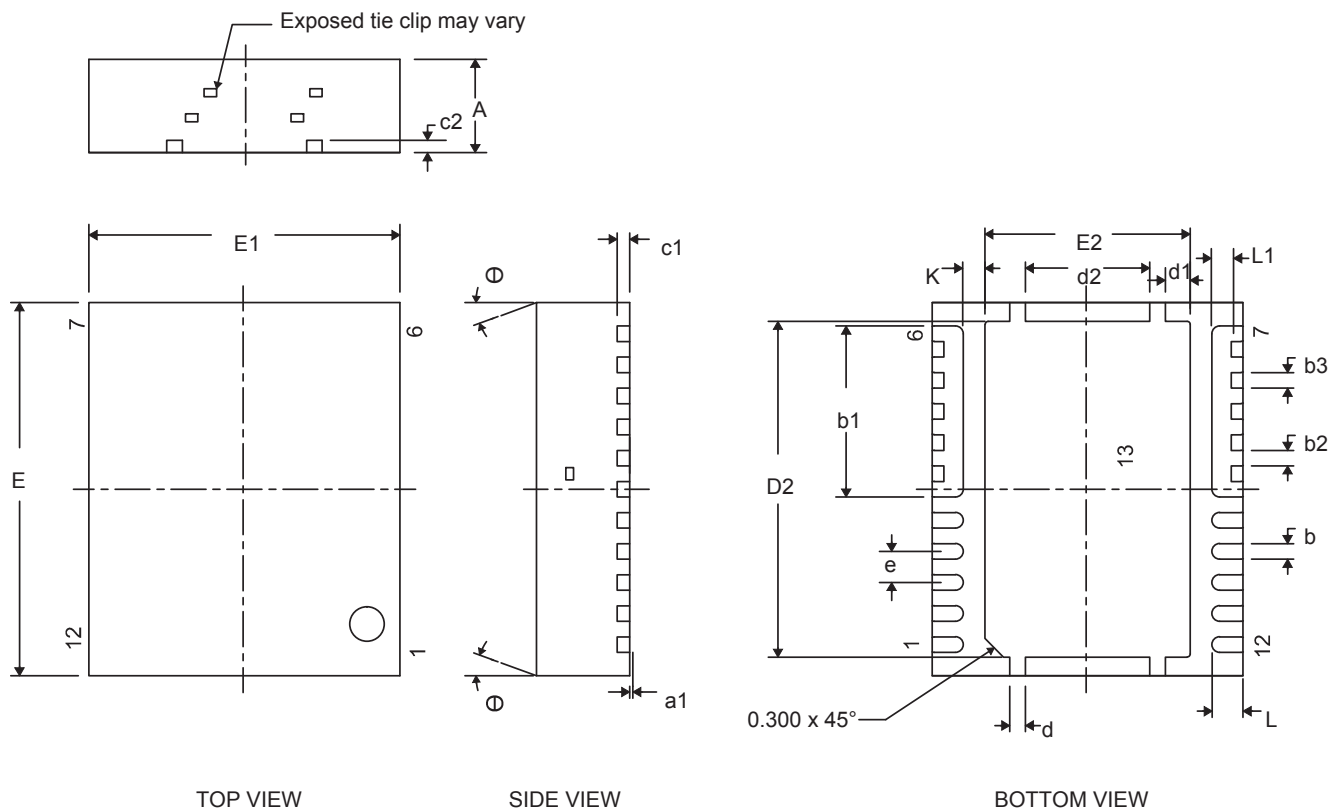

**Figure 11. Recommended PCB Layout (Top Down View)**
- Use the smallest drill size allowed in your design. The example in Figure 11 uses vias with a 10 mil drill hole and a 16 mil capture pad.